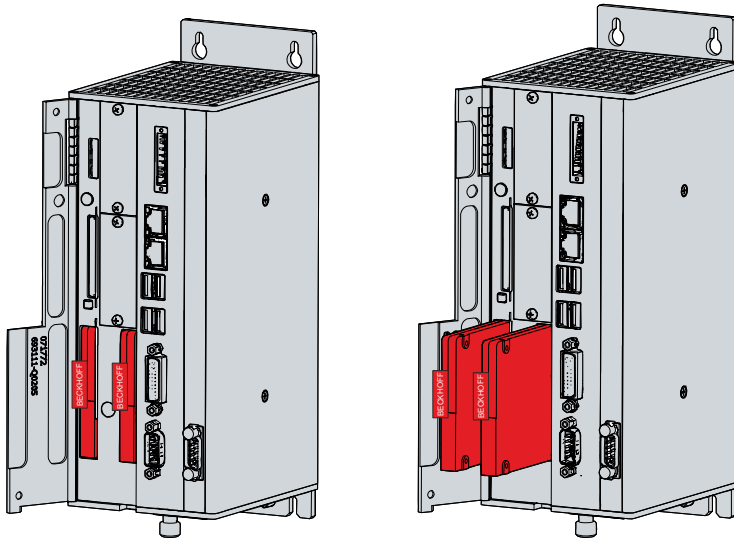

Fig. 27: Exchange SSD
1. Remove the SSD from the PC by pulling forcefully on the protruding Beckhoff sticker (see fig. 27).